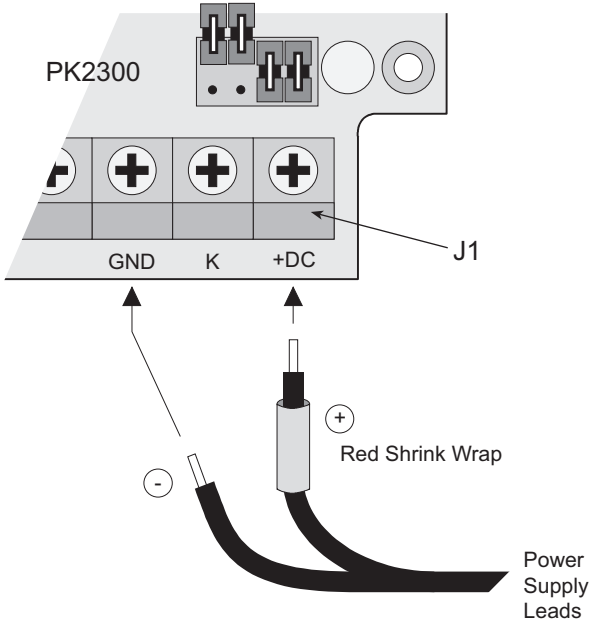

Figure 2-1. Power Supply Connection
2. Connect the 12 V DC power supply to the +DC and GND terminals as shown in Figure 2-1.